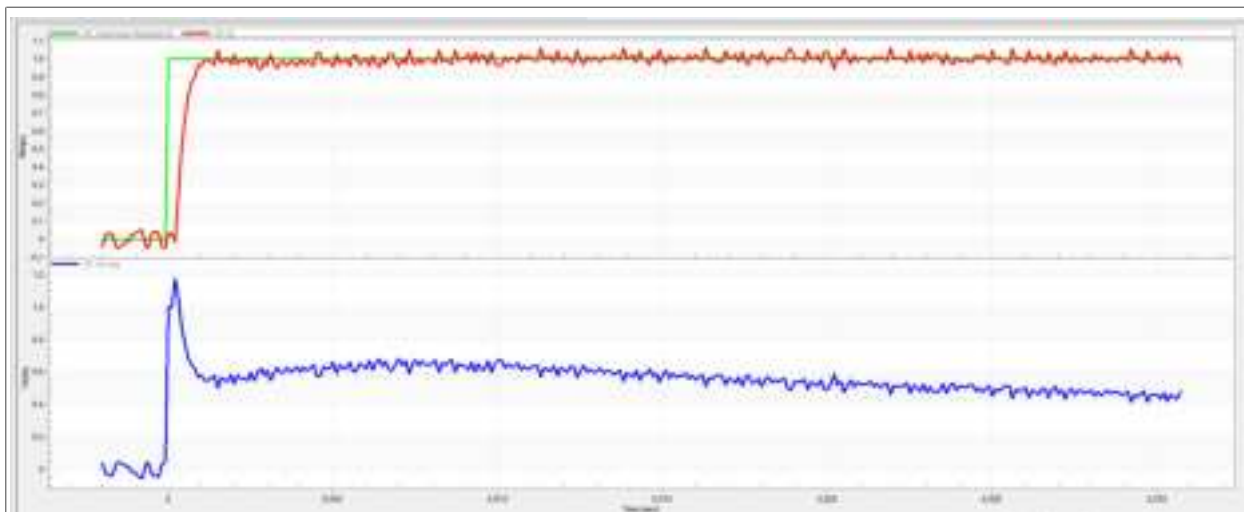

Figure 29. Optimal step response of the Id current controller
- The loop bandwidth (300 Hz) is optimal and the response time of the Id current is sufficient (Figure 29).